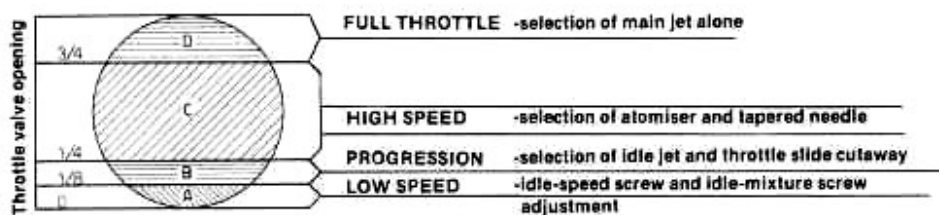

fig. 2
**Figure 2** shows the section of a venturi according to the operating periods regulated by the throttle valve opening. In every phase of operation, it is possible to vary and select the optimum setting.